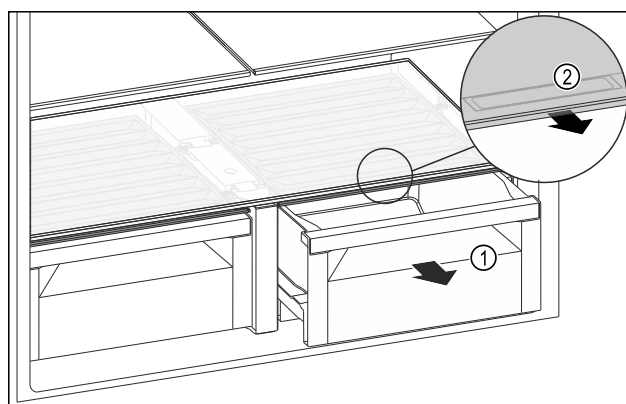

Fig. 108
- Pull out the drawer Fig. 108 (1).
- Grip the handle recess Fig. 108 (2) on the lid while pulling the lid forward at the same time.